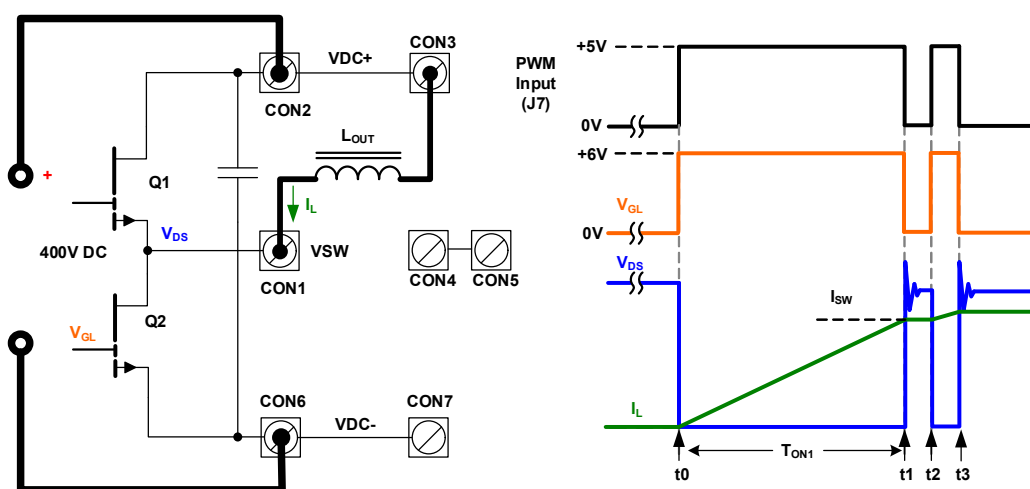

Figure 5. Double Pulse Test Setup
The circuit configuration and operating principle is shown in Figure 5.
- c. Set up the signal generator as shown in Figure 5 to create the waveforms. Use equation $I_{SW} = (V_{DS} * T_{ON1}) / L$ to calculate the pulse width of the first pulse and ensure the I_{SW_MAX} is $\leq 40A$ at 400V_{DC}.